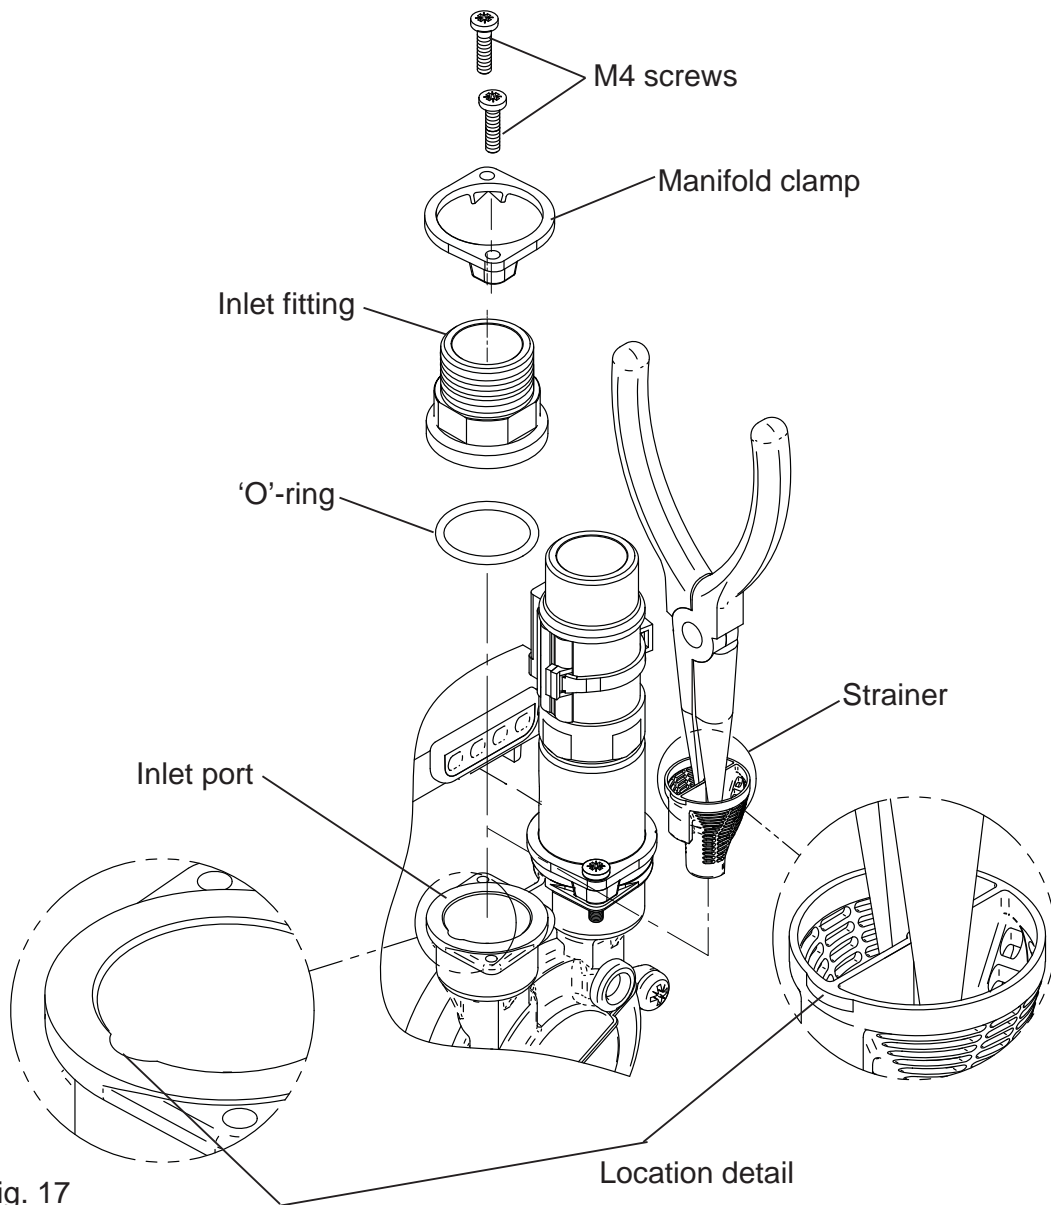

Fig. 17
- d) Remove M4 screws (2 off) from inlet assembly, lift brass inlet fitting (with 'O'-ring) and clamp away from pump casing (Fig. 17).
- e) Remove strainer with long nose pliers noting location lug position upon removal (Fig. 17) and clean thoroughly.
- f) Refit strainer taking care to position lug in body inlet port location slot (Fig. 17) and re-assemble pipework. Tighten M4 clamp screws to 1.5 Nm torque.